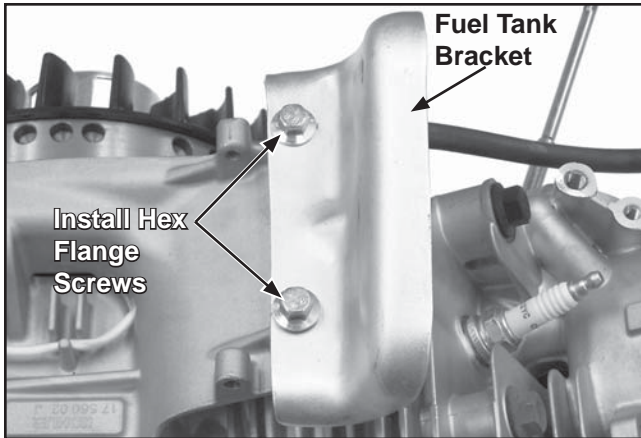

Figure 11-55. Install Fuel Tank Bracket.
1. Position both tank support brackets on the crankcase and install with four hex flange screws. See Figures 11-55 and 11-56. Torque to **24 N·m (212 in. lb.)**.